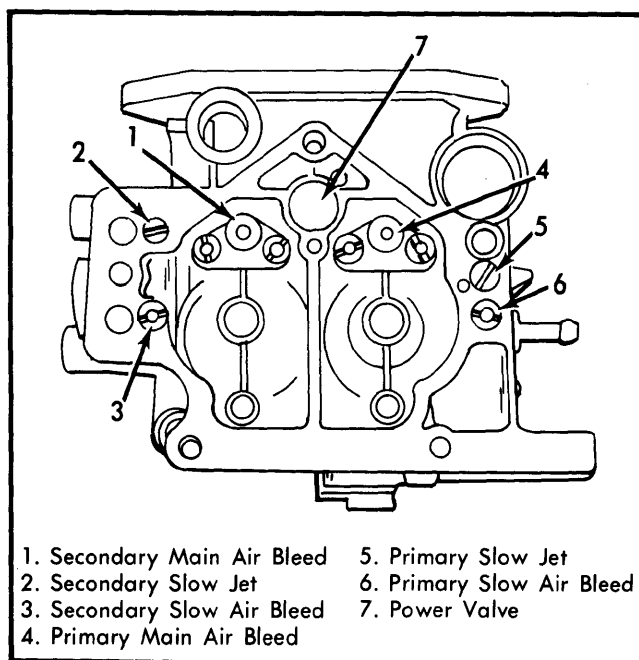

Fig. 10 Removing and Installing Jets and Air Bleeds
7) Remove primary jet plugs, gaskets and main jets. Remove idle jets and all air bleeds from main body. See Fig. 10. Using a hacksaw, cut through mixture limiter shell .47" (12 mm) from shell end. Remove and discard mixture screw, spring and shell.